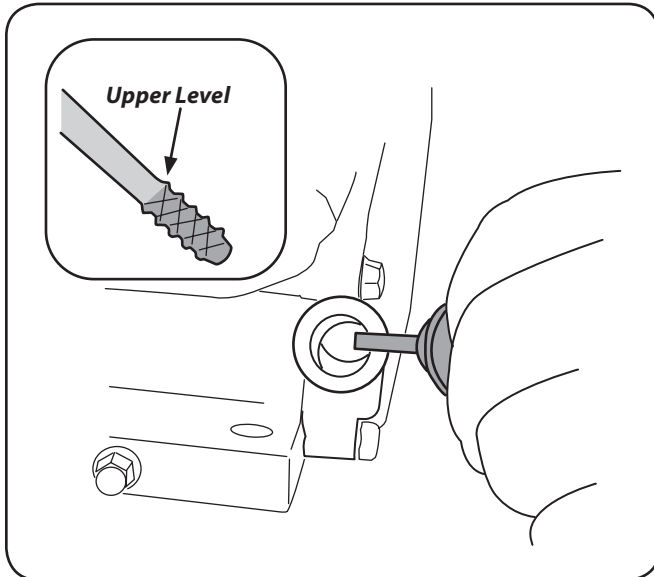

Figure 3-3
1. Remove the oil filler cap/dipstick and wipe the dipstick clean. See Fig. 3-3.